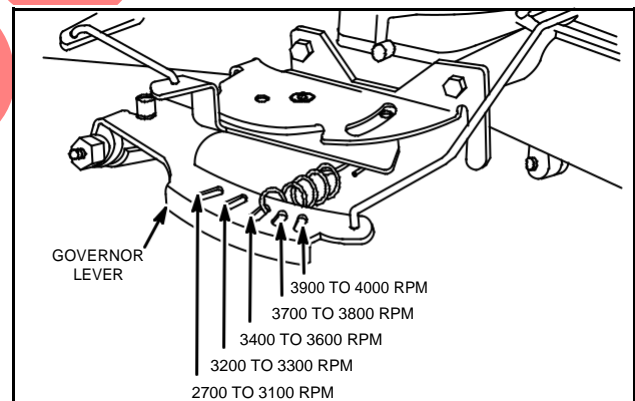

Fig. 35 – Governor Spring Position
5. Check governor spring hole position for proper location for engine RPM, Fig. 35.